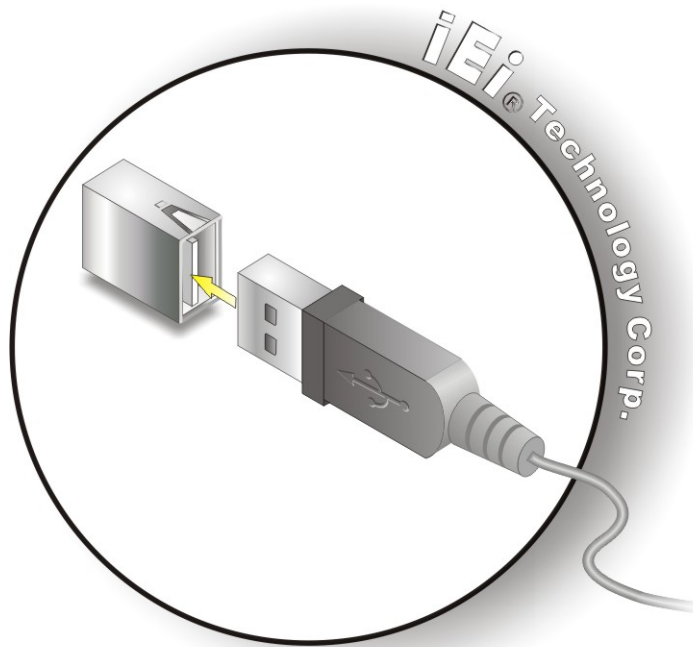

Figure 4-18: USB Connector
- Step 2:** **Insert a USB Series "A" plug.** Insert the USB Series "A" plug of a device into the USB Series "A" receptacle on the external peripheral interface. See **Figure 4-18**.